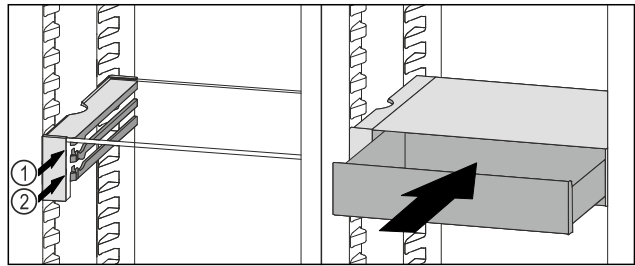

Fig. 99
- ▶ Place the VarioSafe drawer behind the stoppers on desired rib *Fig. 99 (1)* or *Fig. 99 (2)*.